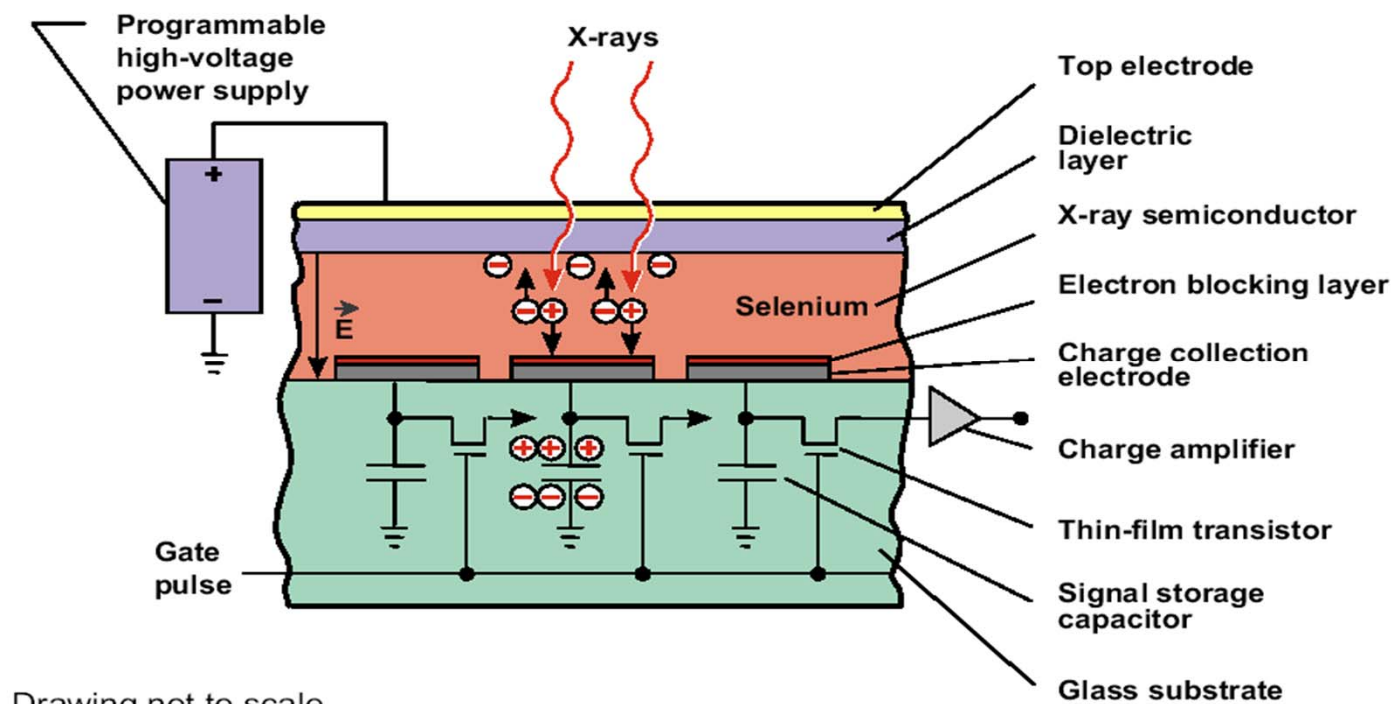

Figure 16
(2) Direct detection flat panel systems
- ❖ Direct flat panel detectors are made from a layer of photoconductor material on top of a TFT array, as shown in figure 16.